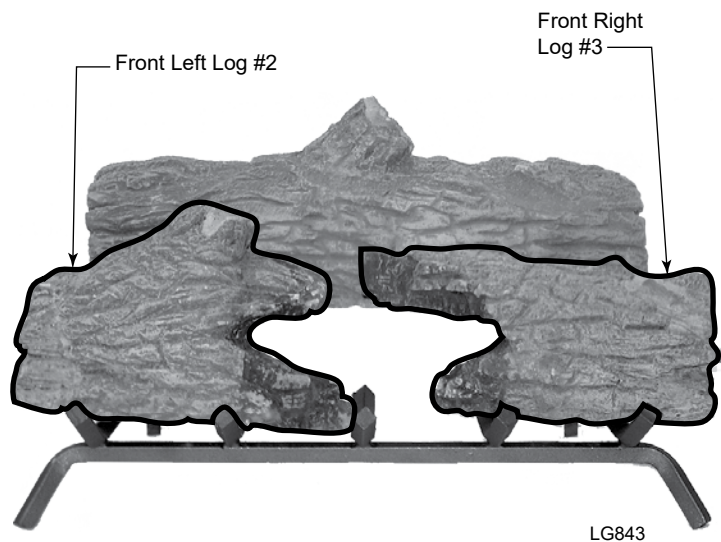

Figure 24 -
3. Place front left log #2 on the front of the grate and to the left. *Figure 24*
4. Place front right log #3 on the front of the grate and to the right. *Figure 24*